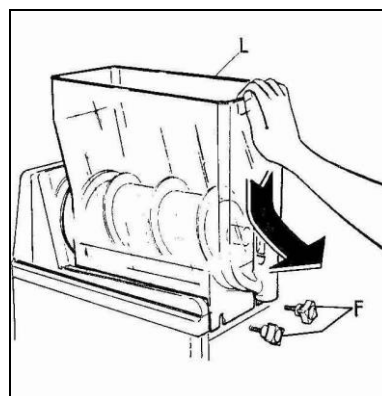

Fig. 2
- **S**lightly move down the bowl as shown in figure 2 while pulling it outwards, this operation will help fully removing it from its seating.